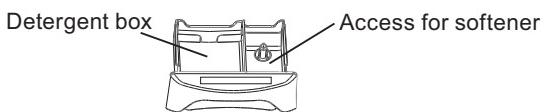

Figure 3
- Turn the inner tub, you will find a softener inlet as the figure 2, open the cover, put the softener into the inlet as the figure 3 before washing, close the cover and the softener will drop into the inner tub during the last time rising. After that, please close the detergent box.